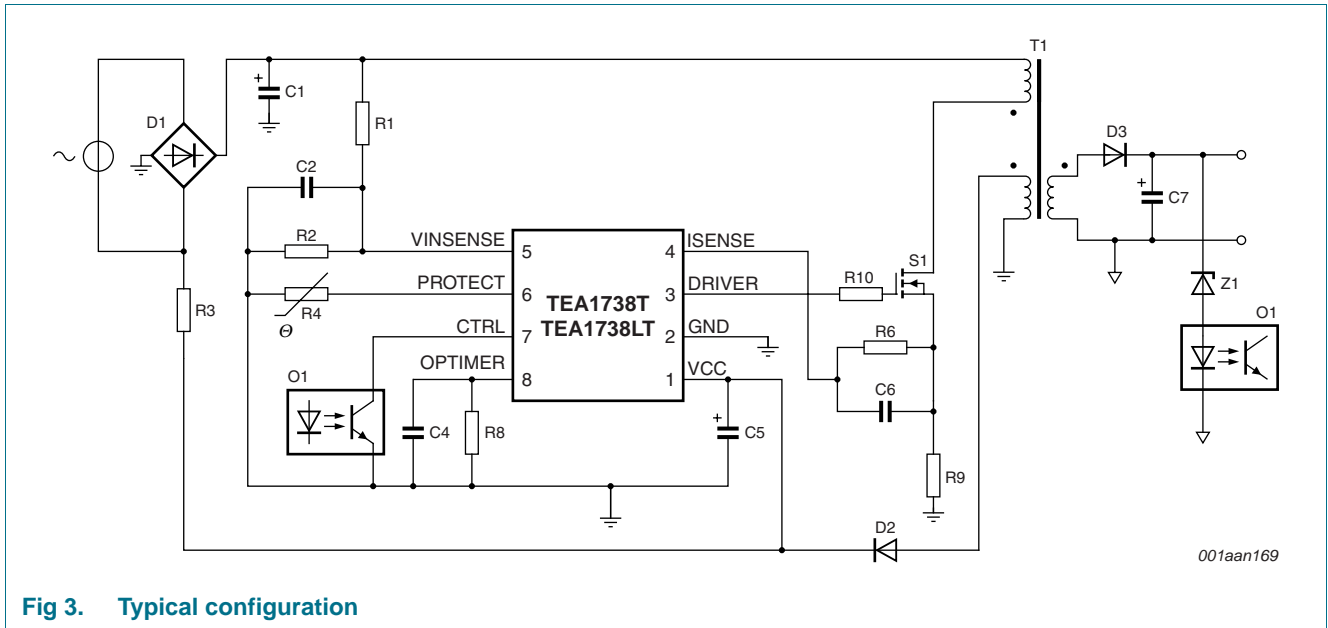
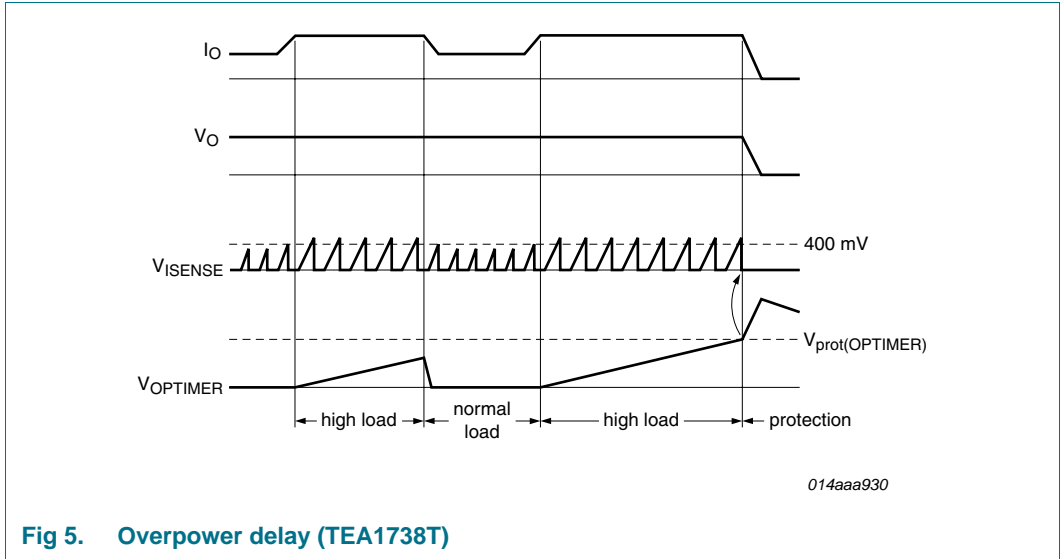
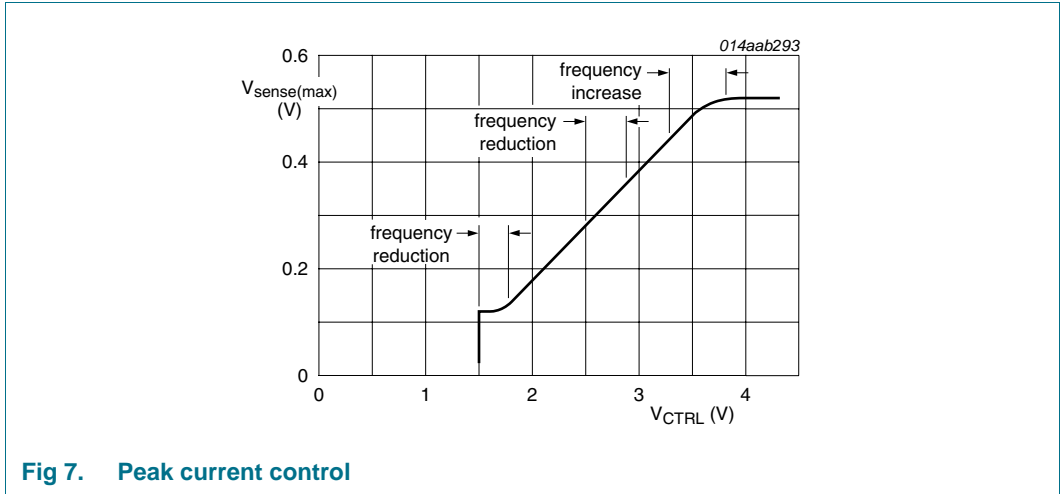

Fig 3. Typical configuration
Fig 5. Overpower delay (TEA1738T)
Fig 7. Peak current control
The TEA1738(L) contains a flyback circuit controller, a typical configuration of which is shown in Figure 3.
If the OPTIMER pin is connected to capacitor C4 (see Figure 3), a temporary overload situation is allowed.  $V_{\text{ctrl}(I_{\text{peak}})}$  (see Figure 1) is set by pin CTRL. When  $V_{\text{ctrl}(I_{\text{peak}})}$  is above 400 mV, the  $I_{\text{IO}(\text{OPTIMER})}$  current (11  $\mu\text{A}$  typical) is sourced from the OPTIMER pin. If the voltage on the OPTIMER pin reaches the  $V_{\text{prot}(\text{OPTIMER})}$  voltage (2.5 V typical) the OverPower Protection (OPP) is triggered (see Figure 5).
The primary current is sensed by the ISENSE pin across external resistor R9 (see Figure 3) and compared with an internal control voltage. The internal control voltage is proportional to the CTRL pin voltage (see Figure 7).
A soft start is performed to prevent audible noise during start-up or a restart condition. Before the converter (re)starts, soft start capacitor C6 (see Figure 3) on the ISENSE pin is charged. When the converter (re)starts switching, the primary peak current slowly increases as the soft start capacitor discharges through the soft start resistor (R6, see Figure 3).
The switching frequency is increased for peak power operation. In medium power operation the switching losses are reduced by lowering the switching frequency. A second frequency reduction step is made when the output power is reduced to low power. In low power operation the converter switching frequency is reduced while the peak current is set to 25 % of the maximum peak current (see Figure 7 and Figure 10).